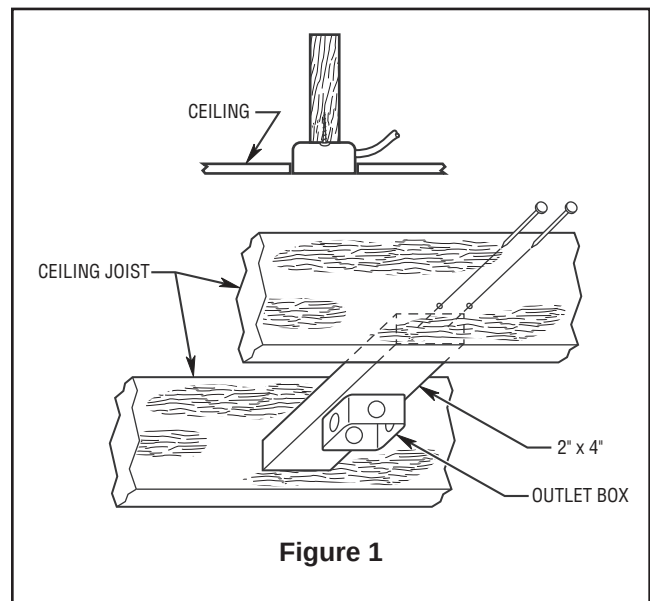

Figure 1
**NOTE:** If you are uncertain of part description, refer to exploded view illustration. (Figure 1, page 11)
Your new ceiling fan will require a grounded electrical supply line of 220~240 volts AC, 50 Hz. The outlet box must be securely anchored and capable of withstanding a load of at least 35 lbs. **Figure 1** depicts different structural configurations that may be used for mounting the outlet box.
- ☐ 1. Prior to assembly, set aside and save the hardware bags packed in the packing. Remove the hanger ball by loosening the setscrew in the hanger ball until the ball falls freely down the downrod. Remove the pin from the downrod, then remove the hanger ball. Retain the pin and hanger ball for reinstallation in Step 5. (Figure1)